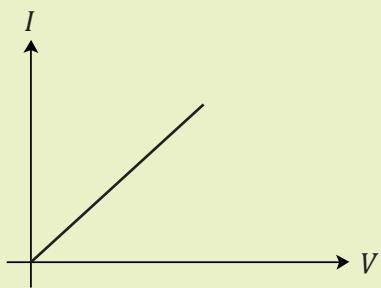

Figure 2.30
- Figures 2.30 and 2.31 show the I - V graphs of two conductors. State and explain whether each of the conductors obeys Ohm's law.